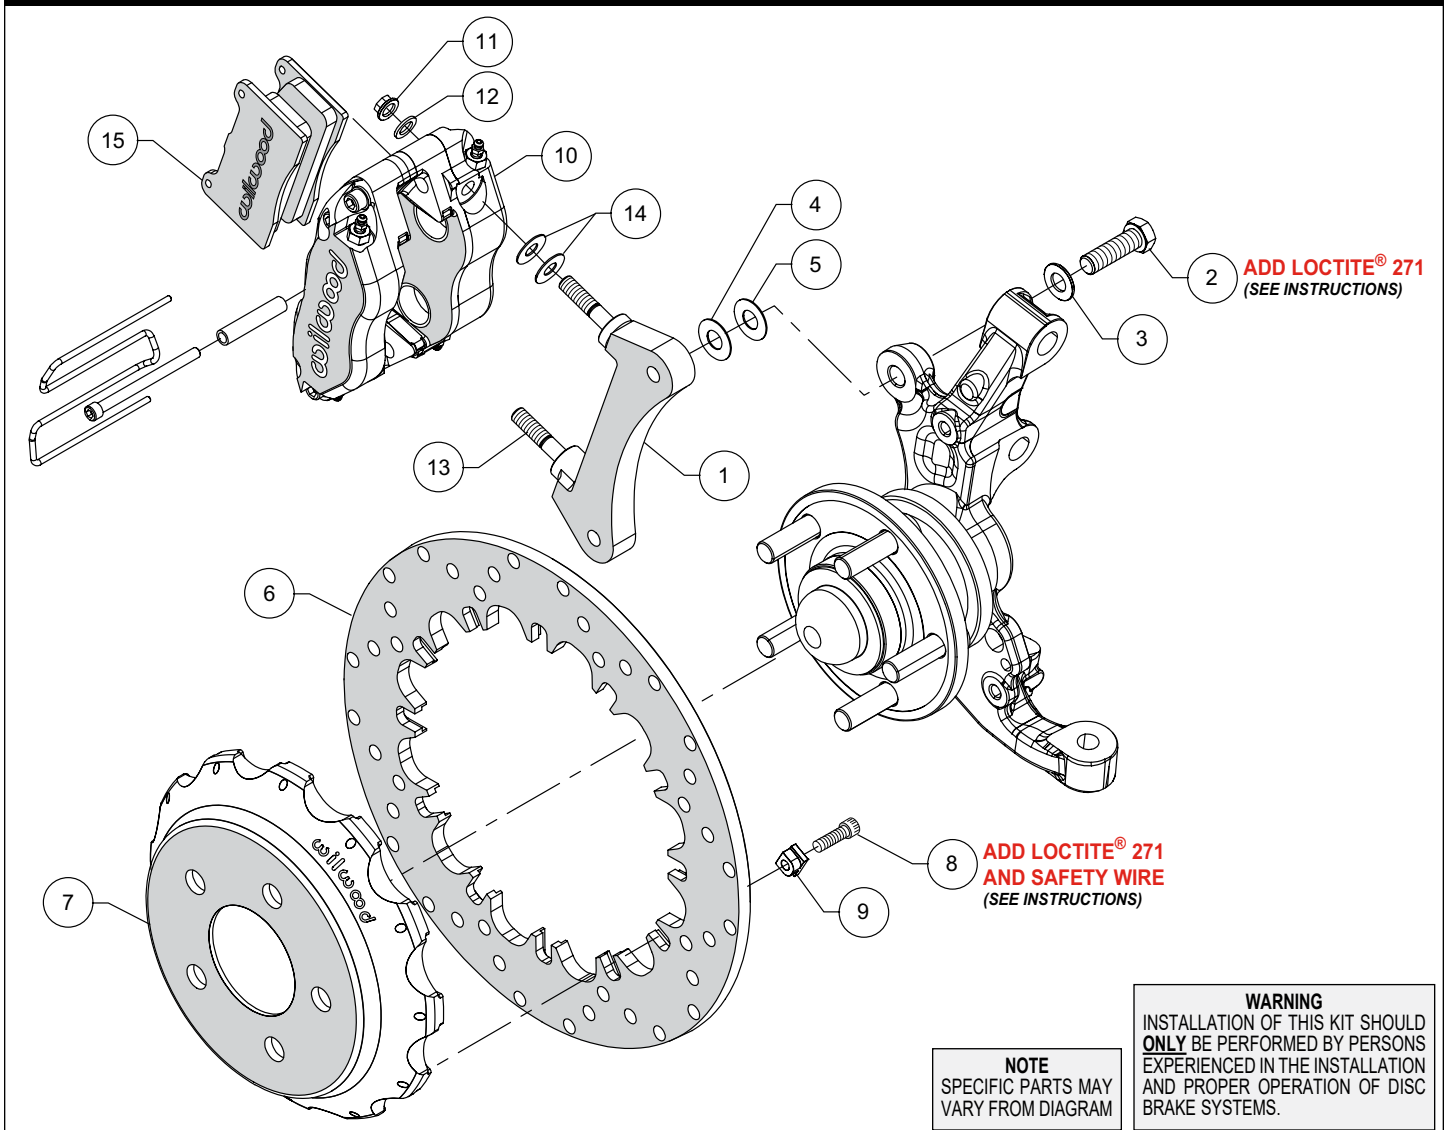
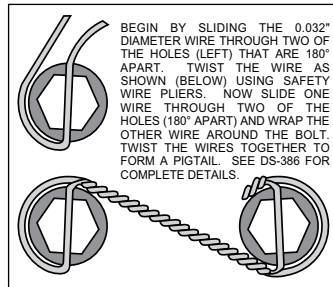

Figure 1. Typical Installation Configuration
Figure 3. Safety Wire Diagram
**NOTE:** Numbers in parenthesis refer to the parts list and Figure 1 on the preceding pages.
- The caliper mount bracket (1) should initially be installed with clean, dry threads on the mounting bolts. Orient the bracket, as shown in Figure 1 and Photo 1, and install using bolts (2) and washers (3). Initially place one .033" thick shim (4) on each bolt between the bracket and upright, Figure 1. Temporarily tighten the mounting bolts. **NOTE:** The bracket must fit squarely against the mount bosses on the upright. Inspect for interference from casting irregularities, machining ridges, burrs, etc. Later, after the caliper alignment has been checked, the mount bolts will be secured using red *Loctite*® 271.
- Orient the rotor (6) and the hat (7) as shown in Figure 1 and Photo 2. Attach rotor to hat using bolts (8) and t-nuts (9). Apply red *Loctite*® 271 to the bolt threads and torque to 120 in-lbs using a criss-cross pattern. The bolts must be safety wired using standard 0.032 inch diameter stainless steel safety wire as shown in Figure 3. Refer to Wilwood's data sheet DS-386 (available at [www.wilwood.com/Pdf/DataSheets/ds386.pdf](http://www.wilwood.com/Pdf/DataSheets/ds386.pdf)) for complete safety wire installation instructions.
- Initially place two .035" thick shims (14) on each stud (13) as shown in Figure 1 and Photo 4. Mount the caliper (10) onto the bracket (1) using lock nuts (11) and washers (12), Figure 1. Temporarily tighten the lock nuts and view the rotor through the top opening of the caliper. The rotor should be centered in the caliper, Photo 5. If not, adjust by adding or subtracting shims (4 and/or 5) between the bracket and the mounting bosses. Once the caliper alignment is correct, remove the bracket mounting bolts one at a time, apply red *Loctite*® 271 to the threads, and torque to 60 ft-lbs.
- Insert the brake pads (15) into the caliper with the friction material facing the rotor (6), as shown in Figure 1 and Photo 6. Check that the top of the brake pad is flush with the outside diameter of the rotor, Photo 7. If not, adjust by adding or subtracting shims (14) between the caliper and the bracket. After the caliper pad height is set, torque the caliper lock nuts (11) to 30 ft-lb. Secure the pads in place using the pad clip retainer as well as the center bridge pad retainer tube, bolt, and locknut, Photo 8. The locknut should be snug without play in the bolt or tube. Be cautious not to over tighten.